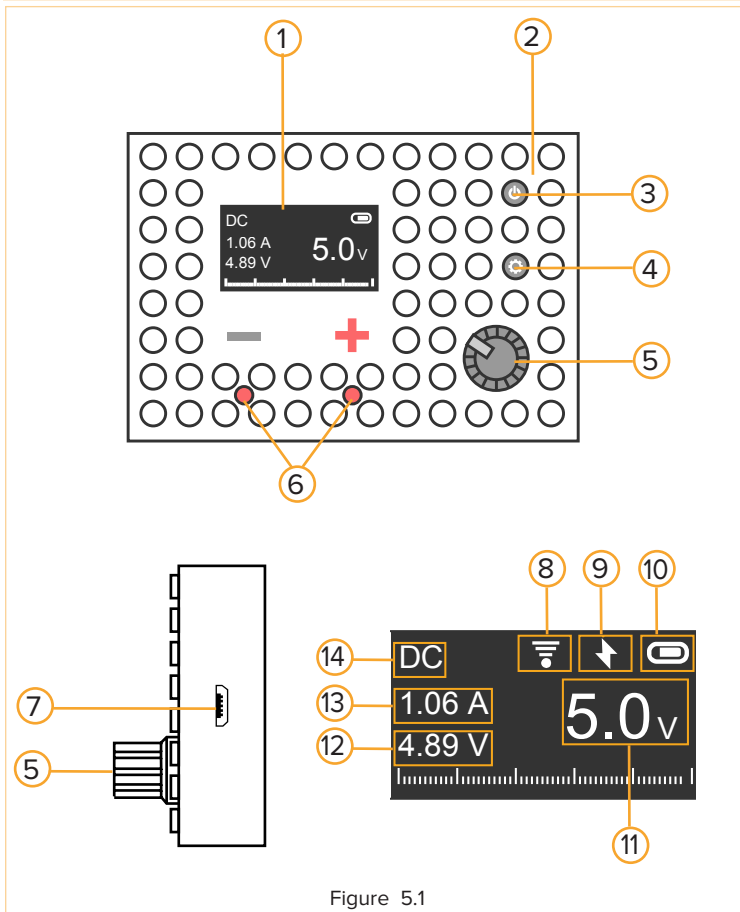
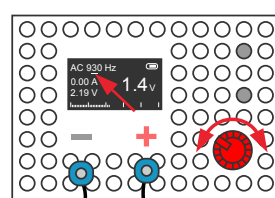

Figure 5.1
figure 5.4
- The device is switched on with the power button (**4 in Figure 5.1**). If you press this button again, the device will turn off.
- To charge the PSU, you must connect it with a micro-USB cable to any high-quality USB-compatible source with an admissible current of **0.5-2 A**. A hidden red light-emitting diode (**2 in Figure 5.1**) will light during charging. The short-term flashing of this light-emitting diode is normal.
- After the PSU has been switched on, it is in the DC mode. This is shown on the device with the DC symbol in the upper left corner of the display (**14 in Figure 5.1**).
- The voltage is set by rotating the regulator (**2 in Figure 5.1**). If no overload occurs, then the device is a voltage source.
- If the current exceeds **1 A**, the device will switch to overload mode. In overload mode, the measured voltage and current (**12 and 13 in Figure 5.1**) will flash. After the current has been reduced to 1 A, the device will return to normal mode.
- In overload mode, the voltage at the terminals will be lower than the EMF set by the regulator (**5 in Figure 5.1**). In this mode the battery is discharged noticeably faster; in particular, the device may switch off, even though there is still enough charge for operation in normal mode. The overload mode is completely safe for the device.
- To switch to AC mode, briefly press the mode button (**4 in Figure 5.1**). This mode will be shown on the device with the AC symbol in the upper left corner of the display (**14 in Figure 5.1**). If you briefly press the mode button again, the PSU will switch back to DC mode.
- After switching to the AC mode, the regulator (**4 in Figure 5.1**) will set the voltage value.
- If you press and turn the regulator to the right (**5 in Figure 5.1**), the PSU will switch to the mode of precise frequency control (*Figure 5.4*).
- By turning the regulator (**5 in Figure 5.1**) while it is pressed, you can select the number you want to change: after it is released, the regulator will change the selected number. To return to rough editing, you need to press the regulator and turn it to the left.
- If the current exceeds **0.2 A**, the device will switch to overload mode. In overload mode, the measured voltage and current (**12 and 13 in Figure 5.1**) will flash. After the current has been reduced to **0.2 A**, the device will return to normal mode.
- In overload mode, the voltage at the terminals will be lower than the EMF set by the regulator (**5 in Figure 5.1**). In this mode the battery is discharged noticeably faster; in particular, the device may switch off, even though there is still enough charge for operation in normal mode. Overload mode is completely safe for the device.
- To access the settings menu, press and hold the mode control button (**4 in Figure 5.1**) for 3 seconds.
- To move around the menu, use the regulator or briefly press the mode control button (**5 and 4 in Figure 5.1**). To select a menu item, press the regulator or press and hold the mode control button.
- In order to enter the configuration mode, you need to connect the device to the charger, turn it on with the power button (**3 in Figure 5.1**), then press the mode control button (**4 in Figure 5.1**) and hold it for 3 seconds.
- To move around the menu, use the regulator or briefly press the mode control button. *(5 and 4 in Figure 5.1).*